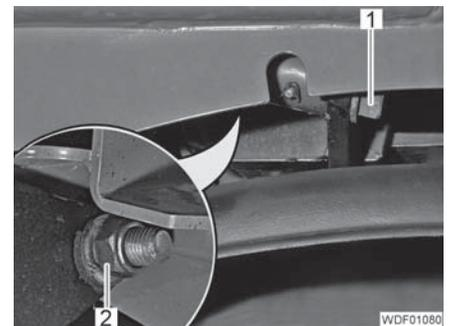

Fig. 342 Cab attachment (rear)
- Unscrew the nut (Fig. 342,2).
- Drive out the hinge pins (Fig. 342,1) forwards.